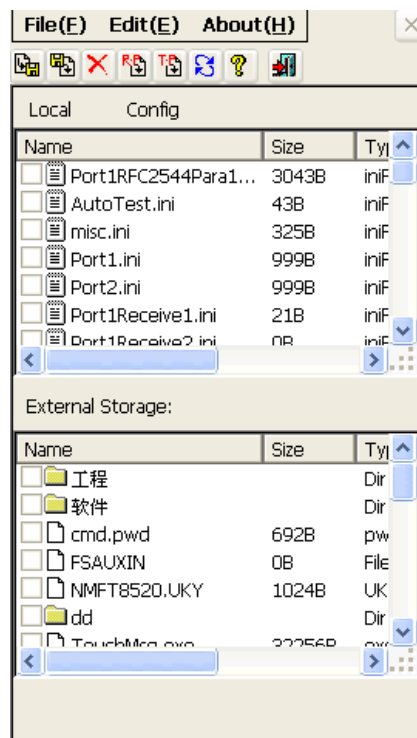

Figure 5.15.5 Data Manage
Used for operating the saved test results such as viewing, managing, exporting, configuration file exporting and importing etc, as is shown in figure 5.15.5.
4. **[Export RFC2544Para. : Export RFC2544 parameters file to auto test folder. User can set name of saving folder, as is shown in figure 5.15.5.**
5. **[Export TrafficPara. : Export Traffic parameters file to auto test folder. User can set name of saving folder, as is shown in figure 5.15.5.**